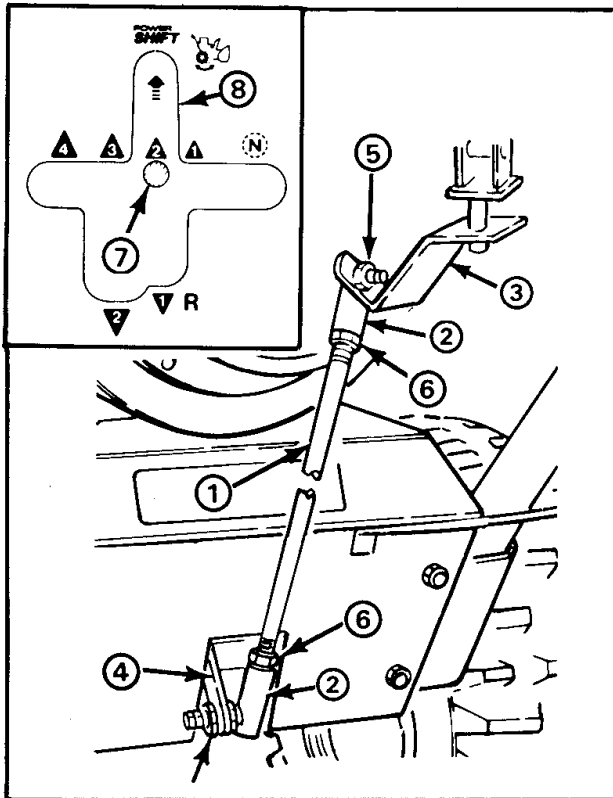

Figure 4
## INSTALL SHIFT ROD (Fig. 4)
**Note:** If gear shift lever is not aligned with Power Shift slot in control panel (Fig. 4, Inset), shift rod length must be adjusted as follows: